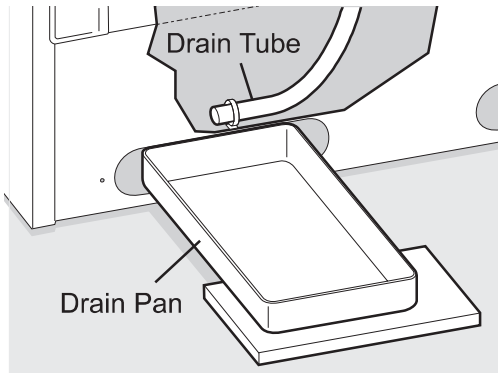

Figure 1
- **On upright models with a defrost drain** (Figure 1), remove drain plug on the inside floor of the freezer by pulling straight out. To access external drain tube on models with a base panel, first remove the 2 screws from the base panel. Locate the drain tube near the left center under the freezer. Place a shallow pan under the drain tube. Defrost water will drain out. Check pan occasionally so water does not overflow. A  $\frac{1}{2}$  inch garden hose adapter can be used to drain the freezer directly into a floor drain. If your model is not equipped with an adapter, one can be purchased at most hardware stores. Replace the drain plug when defrosting and cleaning are completed. If the drain is left open, warm air may enter freezer.